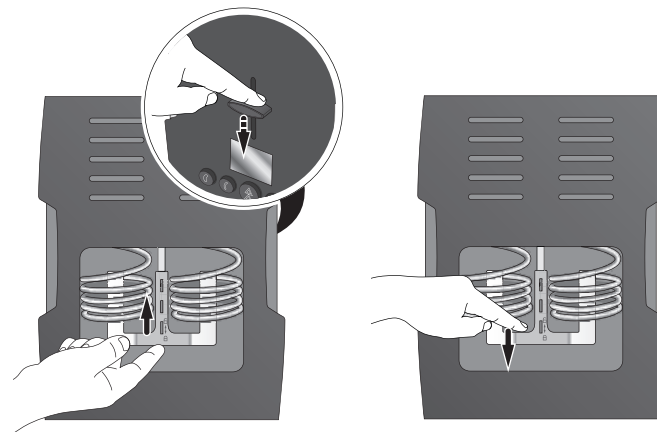

Fig. 10: (a) Remove the sausage holder (b) Fit the sausage holder
5. Remove the sausage holder (fig.10 a) as follows: hold the slide control in place and lift up the upper corner of the sausage holder. The holder can now be taken out.
10. Re-insert the sausage holder (fig.10 b). This is done by inserting the wings of the holder from below into the heating coils. Secure it by fitting the protruding studs on the lifting mechanism into the corresponding recesses on the holder. Pull the holder downwards and check that it is firmly seated.